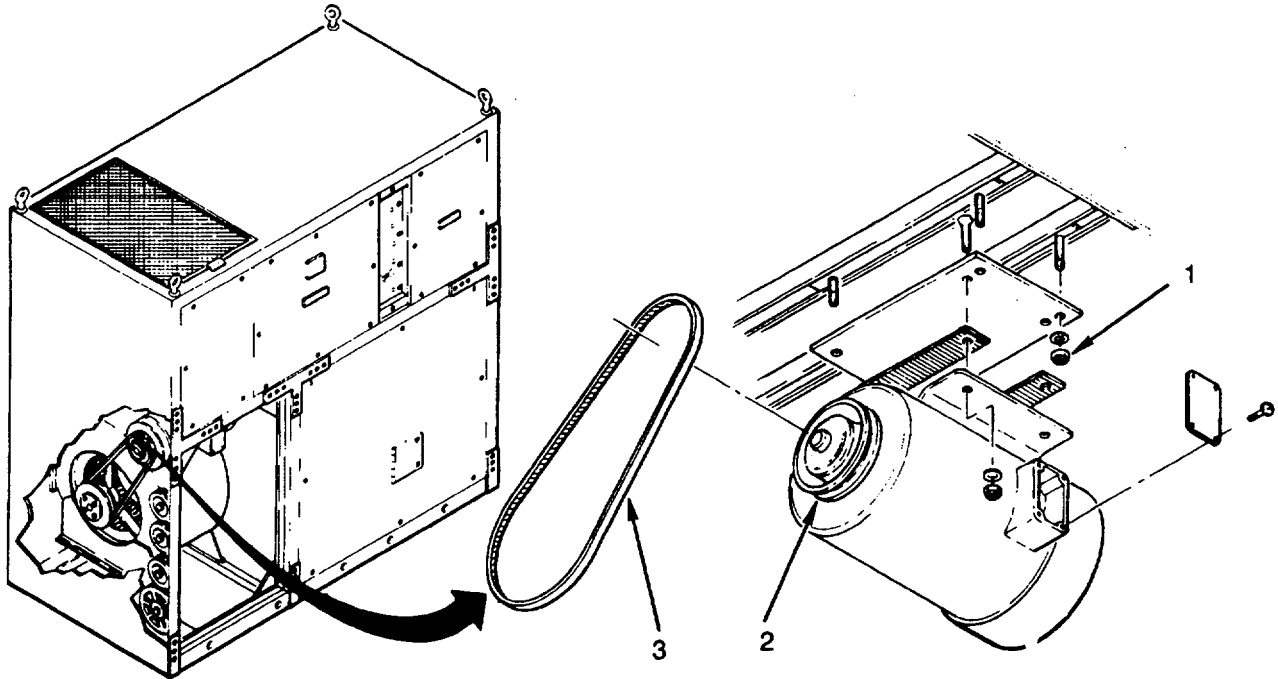

Figure 4-76. Condenser Motor (B3)
1. Check motor (5) for rotational freedom by spinning shaft. If there is any stiffness or binding, contact Direct Support Maintenance (see Figure 4-76).